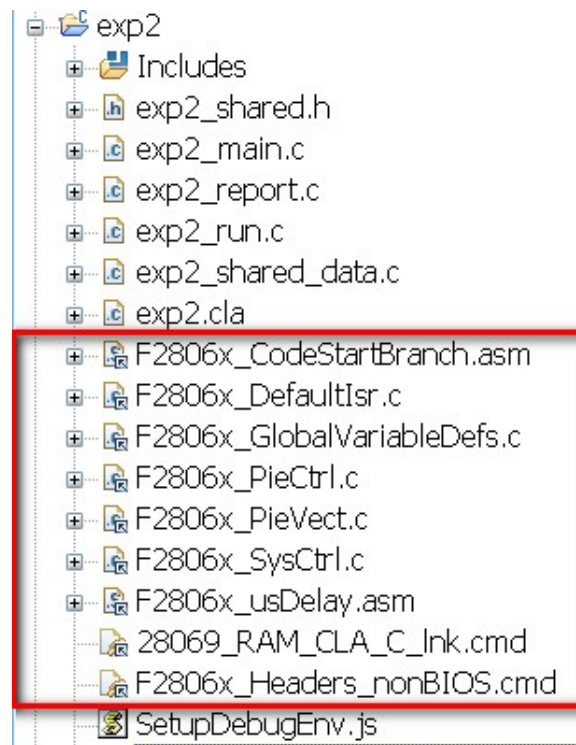

Figure 5.6: Common source files for each CLA example
- Import the `exp2` project into your workspace (see Fig. 5.6).